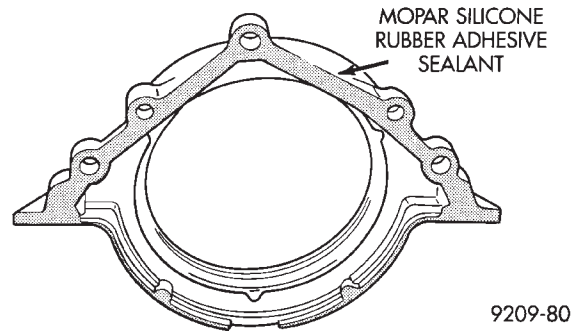

Fig. 74 Apply Sealant to Oil Seal Housing
- (2) Apply (Mopar Silicone Rubber Adhesive Sealant or equivalent) to oil seal housing (Fig. 74) per procedure detailed in form-in-place gasket section in Standard Service Procedures.
- (3) Apply light coating of engine oil to the entire circumference of oil seal lip.